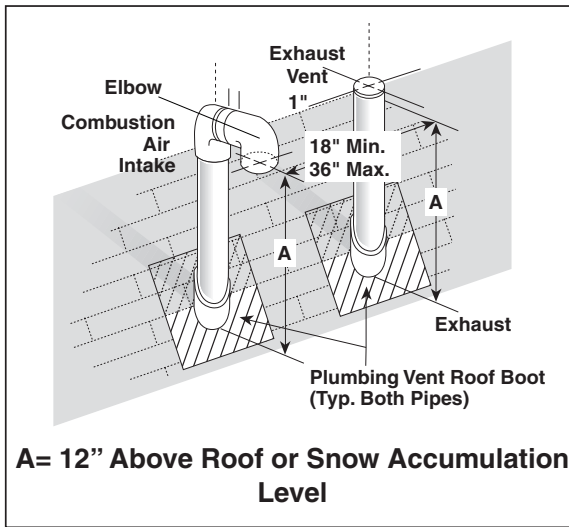

Figure 17. Vertical Vent Termination
Figure 17 shows the proper installation and clearances for vertical vent termination. The roof penetration must be properly flashed and waterproofed with a plumbing roof boot or equivalent flashing. Termination spacing requirements from the roof and from each other must be per Figure 17.
- c. The termination clearances shown in Figure 17 are maintained.